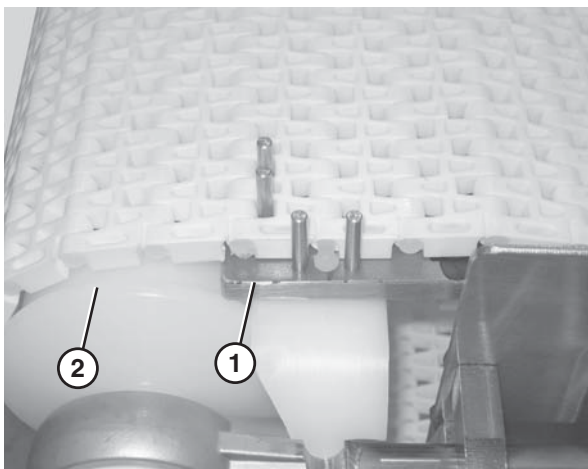

Figure 44
2. Secure the retaining head side of the belt. Use the belt removal tool (**Figure 44, item 1**) for 1" pitch belts. For all other belts, position the section of belt so that it is braced by the flanged puck (**Figure 44, item 2**).